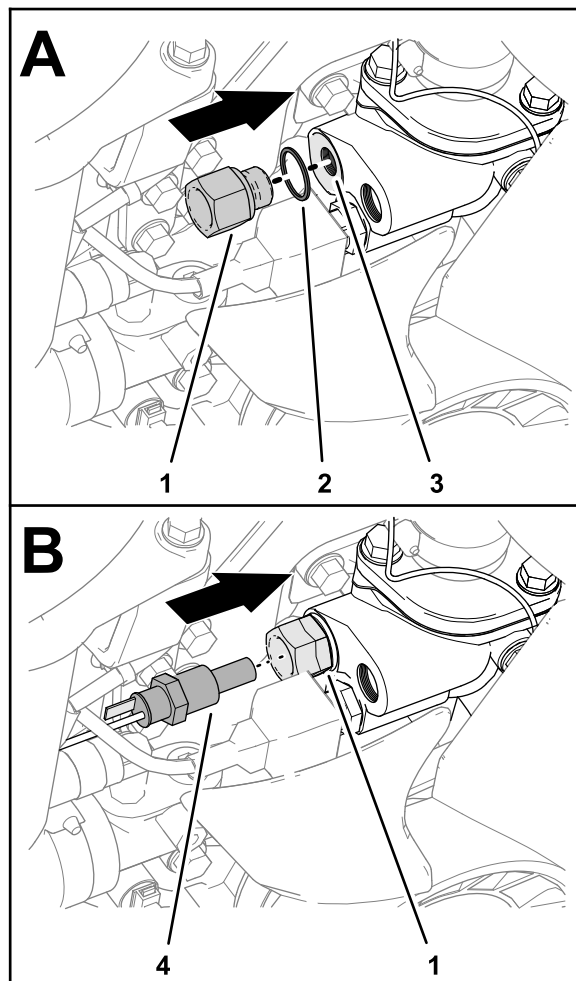

Figure 24
4. Install the reducer and the gasket (plug) into the forward port of the water pump (Figure 24).
6. Install the new temperature sensor into the reducer (Figure 24).